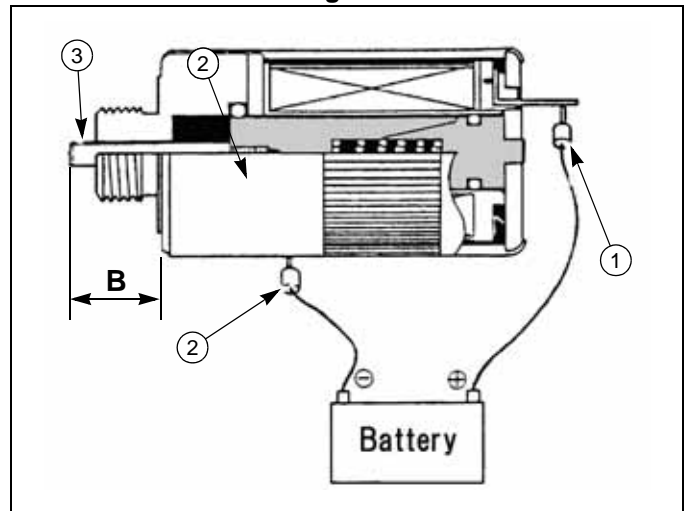

Fig. 5-4
2. Use jumper wires to connect the positive (+) terminal of a 12-volt power supply to the solenoid lead, ① (page 5-2, Fig. 5-4). Connect the negative terminal of the 12-volt power supply to the solenoid body, ② (page 5-2, Fig. 5-4). The plunger, ③ (page 5-2, Fig. 5-4), should retract into the solenoid body.